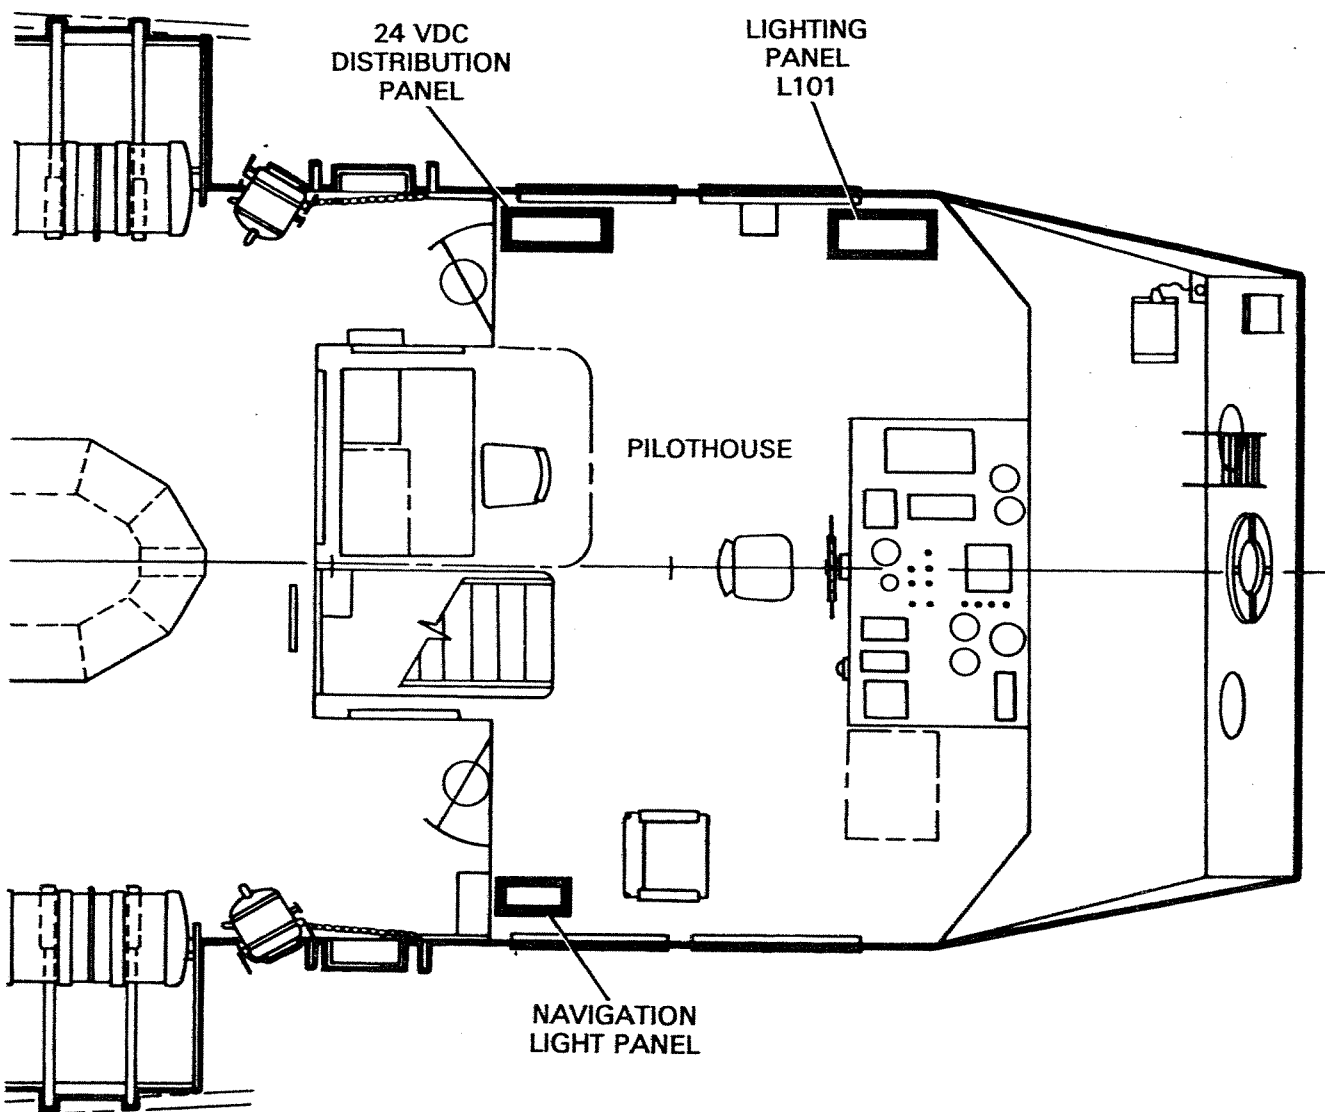

Figure 2-21. Location of Electrical Power Components in Pilothouse
14. The pilothouse 120 volt distribution panel L101 located in the pilothouse at frame 7, port side (Figure 2-21).
15. The 24 VDC distribution panel P024 located in the pilothouse at frame 8-1/2, port side (Figure 2-21).
16. Navigation light panel located in the pilothouse at frame 9, starboard (Figure 2-21).